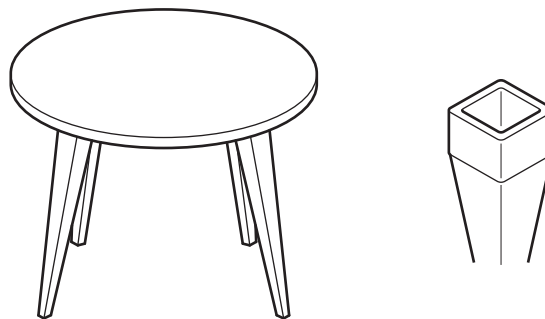

Fig. 5.1
- 5 Fig. 5.1 shows a garden table made from plastic and the top of one of the removable table legs. The legs are fastened to the underside of the table top.